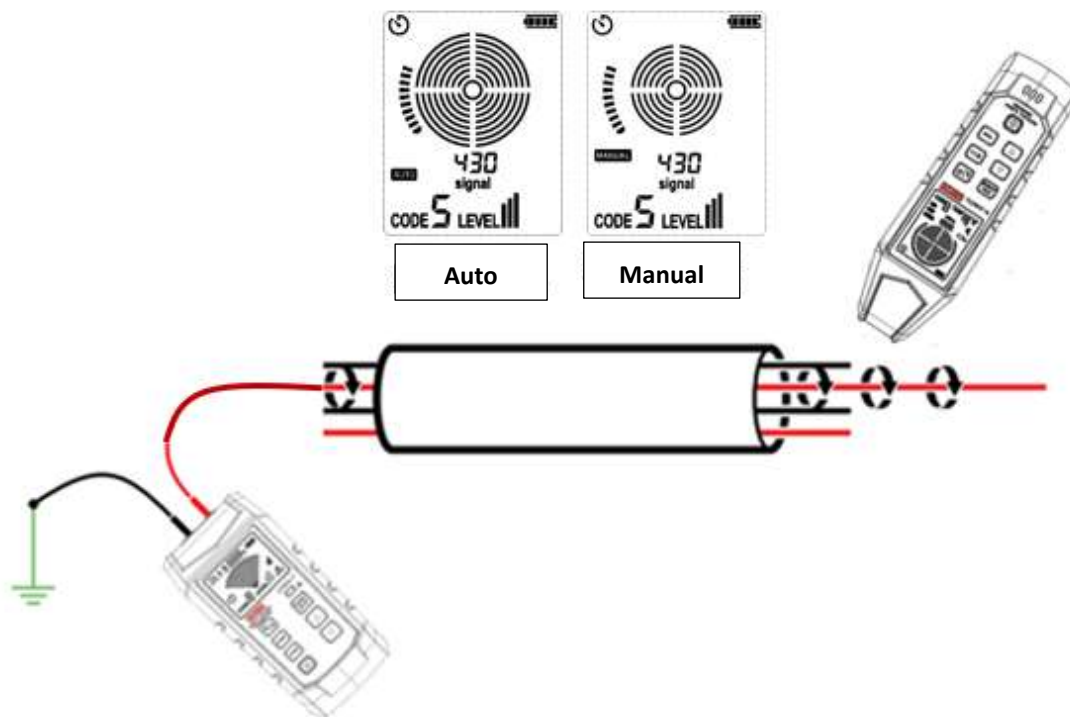

Figure 8.8.1a Identify the specific cable in cable harness
5. See Figure 8.8.1a for specific application.